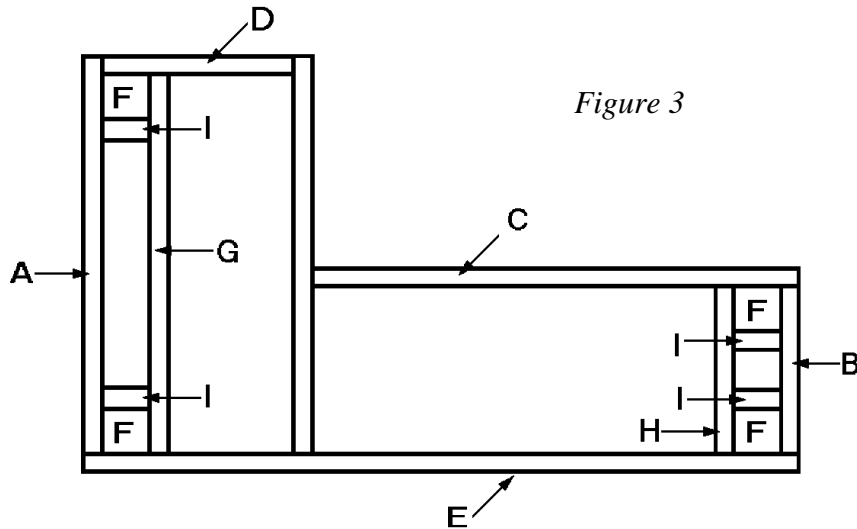

Figure 3
3. From 2 x 4 treated lumber, cut one long leg support (G) measuring 28-1/2" long.
4. Glue and screw the long leg support (G) to the two legs (F) between the short back (D) and the front (E), as shown in *Figure 3*. Use two 2-1/2"-long screws each through the short back (D) and the front (E) into the ends of the long leg support (G). Use two 4-1/2"-long screws through the long leg support (G) into each of the two legs (F).
5. Cut one 12-1/2"-long short leg support (H) from 2 x 4 treated lumber.
6. Glue and screw the short leg support (H) to the remaining two legs (F) between the long back (C) and the front (E), as shown in *Figure 3*. Use two 2-1/2"-long screws each through the long back (C) and the front (E) into the ends of the short leg support (H). Use two 4-1/2"-long screws through the short leg support (H) into each of the two legs (F).
7. Cut four support blocks (I) from 2 x 4 treated lumber, each 3-1/2" long.
8. Fit one support block (I) against the back leg, between the long leg support (G) and the long side (A), as shown in *Figure 3*. Glue and screw it in place using 2-1/2"-long screws through the long side (A) and two 2-1/2"-long screws through the long leg support (G) into the ends of the support block (I). Insert two 4-1/2"-long screws through the support block (I) into the leg (F).
9. One at a time, fit the remaining three support blocks (I) against the other three legs. As you did in Step 8, glue and screw the support blocks in place using 2-1/2"-long screws through the sides (A and B) and leg supports (G and H) into the ends of the support blocks (I). Insert 4-1/2"-long screws through the support blocks (I) into the legs (F).